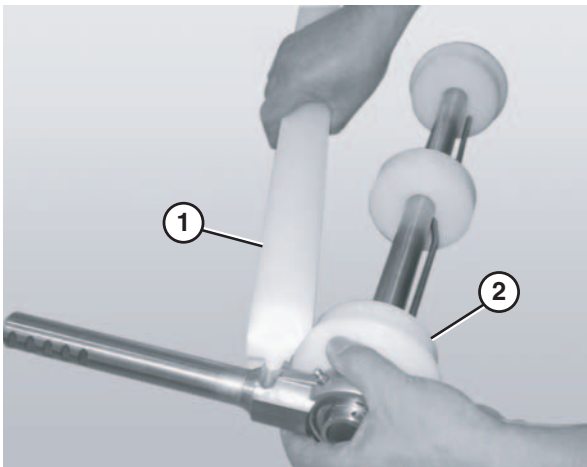

Figure 76
6. Remove the guard bar (**Figure 76, item 1**).
7. Remove the pucks (**Figure 76, item 2**).